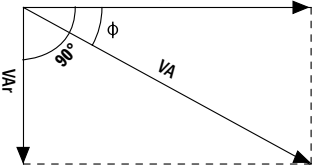

Figure 1
All discharge lamps, such as fluorescent lamps, high pressure mercury vapour lamps, sodium lamps, metal halide lamps, etc., require ballasts (chokes) or transformers for their operation. These devices are inductive in nature. When a discharge lamp is switched on, it draws apparent power from the mains. This apparent power (VA) has two components; one is the active power (W) actually being consumed by the lamp for illuminating it, and the other is the reactive power (VAR) feeding the electromagnetic circuit of the control gear. Power factor is the ratio of Active Power (W) to the Apparent Power (VA) (Figure 1).